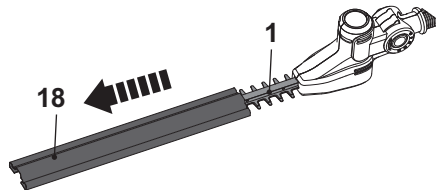

Fig. 2
1. Remove the blade cover (18) from the cutting device (blade) (1) before operation (Fig. 2).
2. Keep the blade cover (18) safely.